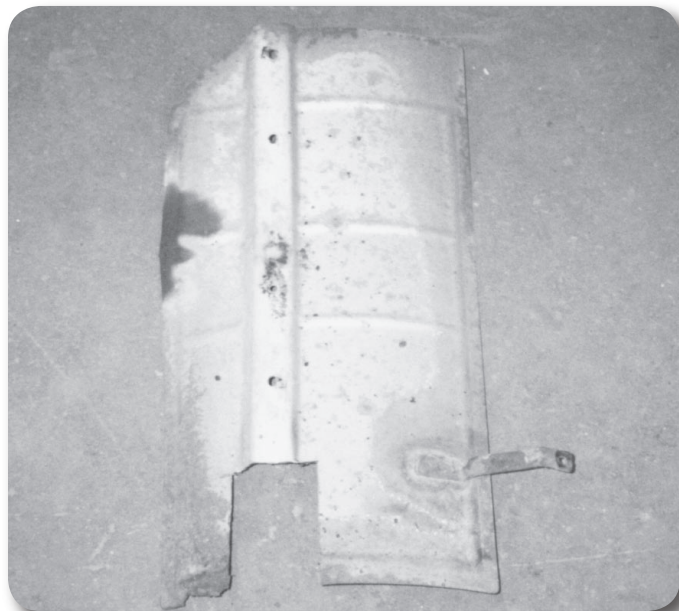

Figure 9
42. Remove heat shield and exhaust hanger. Trim heat shield and reinstall (Fig. 9).